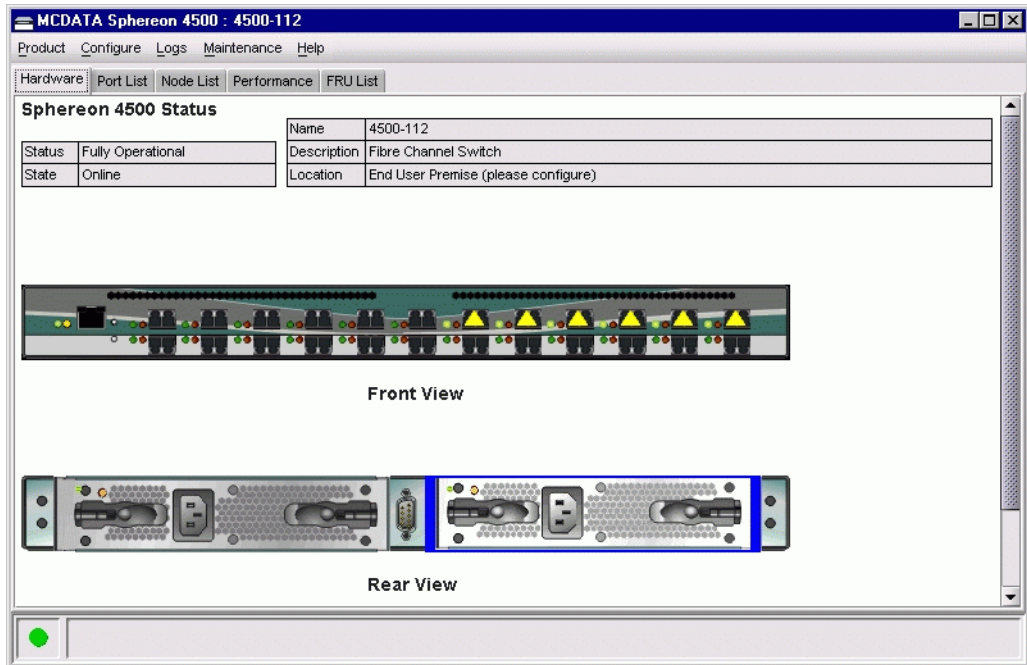

Figure 3-10 Hardware View
Right-click the icon representing the switch reporting the problem. A pop-up menu appears. Select the *Element Manager* option from the menu. The Element Manager application opens and the *Hardware View* displays (Figure 3-10).
Right-click the icon representing the switch reporting the problem. A pop-up menu appears. Select the *Element Manager* option from the menu. The Element Manager application opens and the *Hardware View* displays (Figure 3-10 on page 3-20). At the *Hardware View*:
1. At the *Hardware View* (Figure 3-10 on page 3-20), right-click the FRU graphic. A pop-up menu appears.